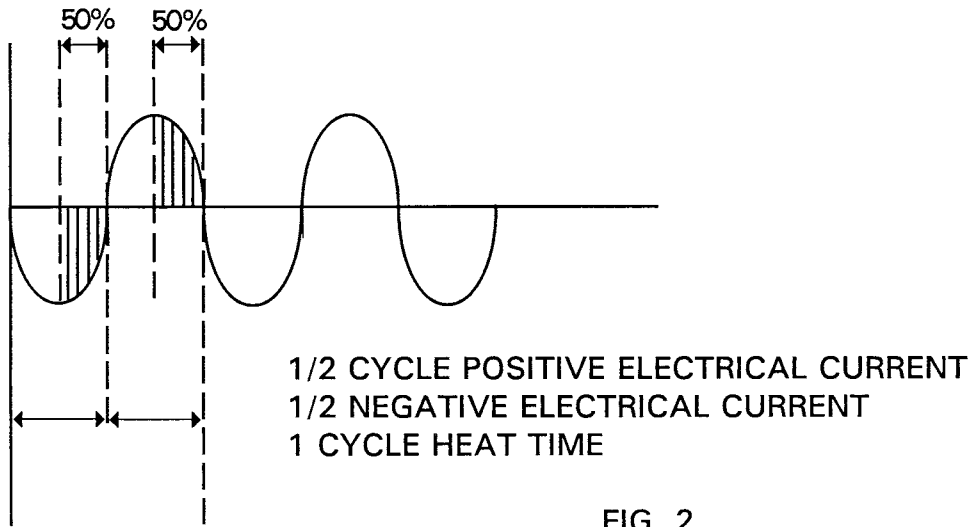

FIG. 2
- A program of 01 HEAT TIME at a heat magnitude of 50% will cause the welder controller to pass to the welding transformer one positive and one negative half cycle of electrical current, both with a magnitude of 50%. (See figure 2)